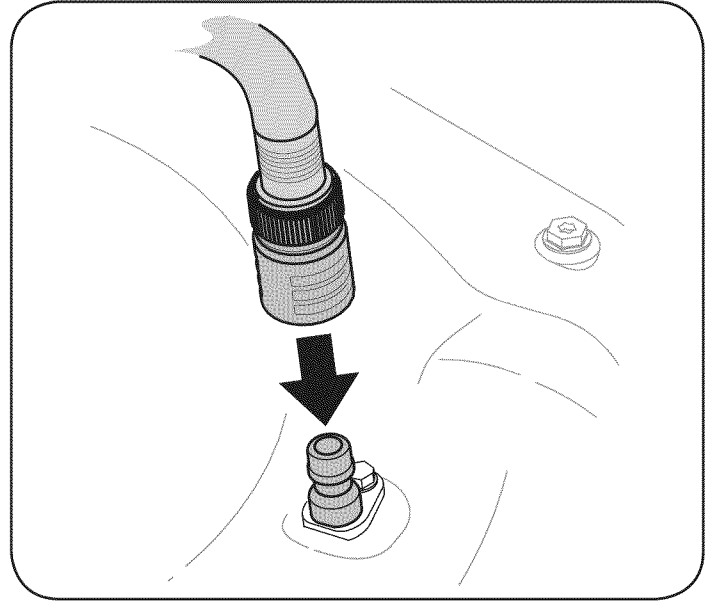

Figure 17
3. Attach the hose coupler to the water port on your deck's surface. See Figure 17.